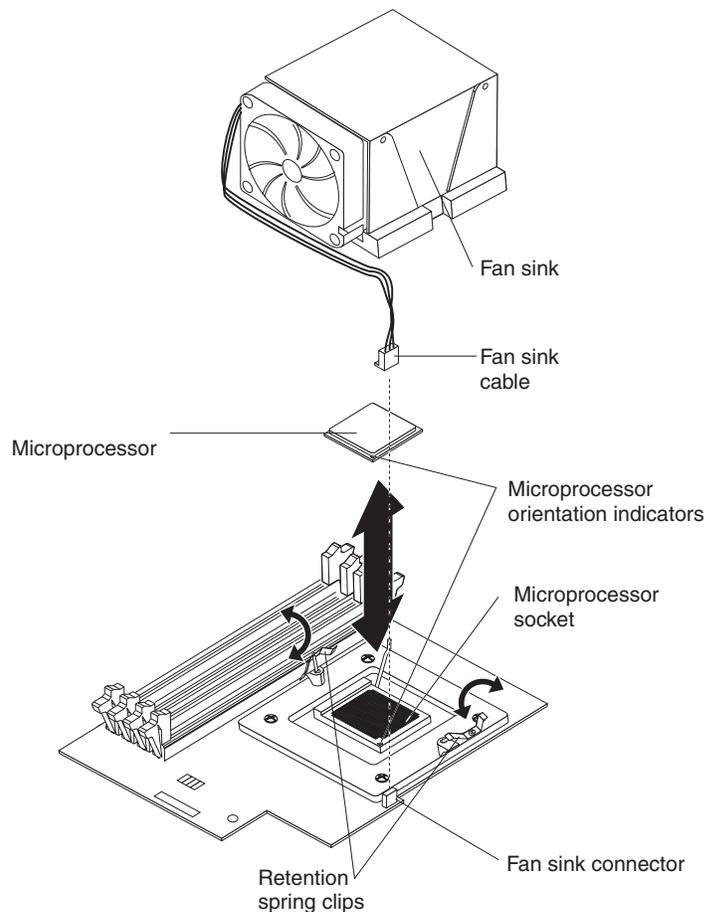

Figure 32. Installing a microprocessor and fan sink
- b. Position the microprocessor over the microprocessor socket as shown in Figure 32 on page 120. Carefully press the microprocessor into the socket.
10. Install the fan sink (see Figure 32).
- e. Press the fan sink into place; then, connect the fan-sink cable to the microprocessor fan connector on the microprocessor board (see Figure 32 for the location of the connector).